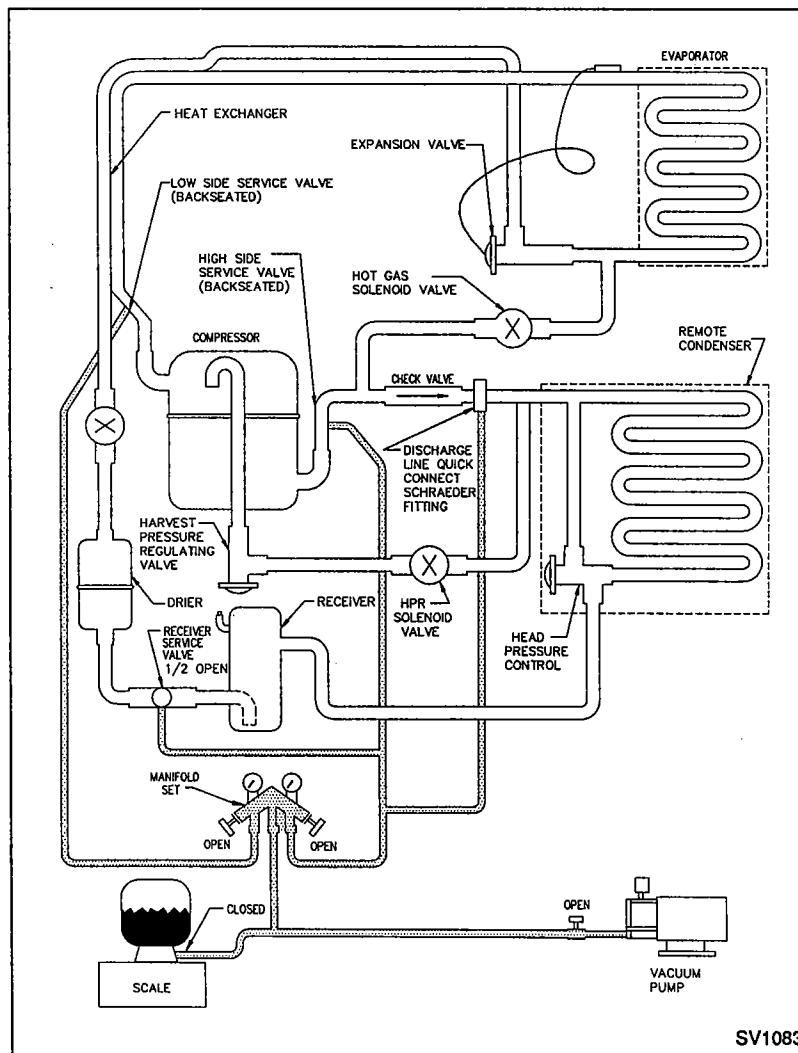

FIGURE 66. EVACUATION OF REMOTE SYSTEMS
1. Evacuation of remote systems requires connection at four points for complete evacuation as follows. Refer to Figure 66.
2. Install manifold gauges, scale and two-stage vacuum pump as shown on Figure 66.